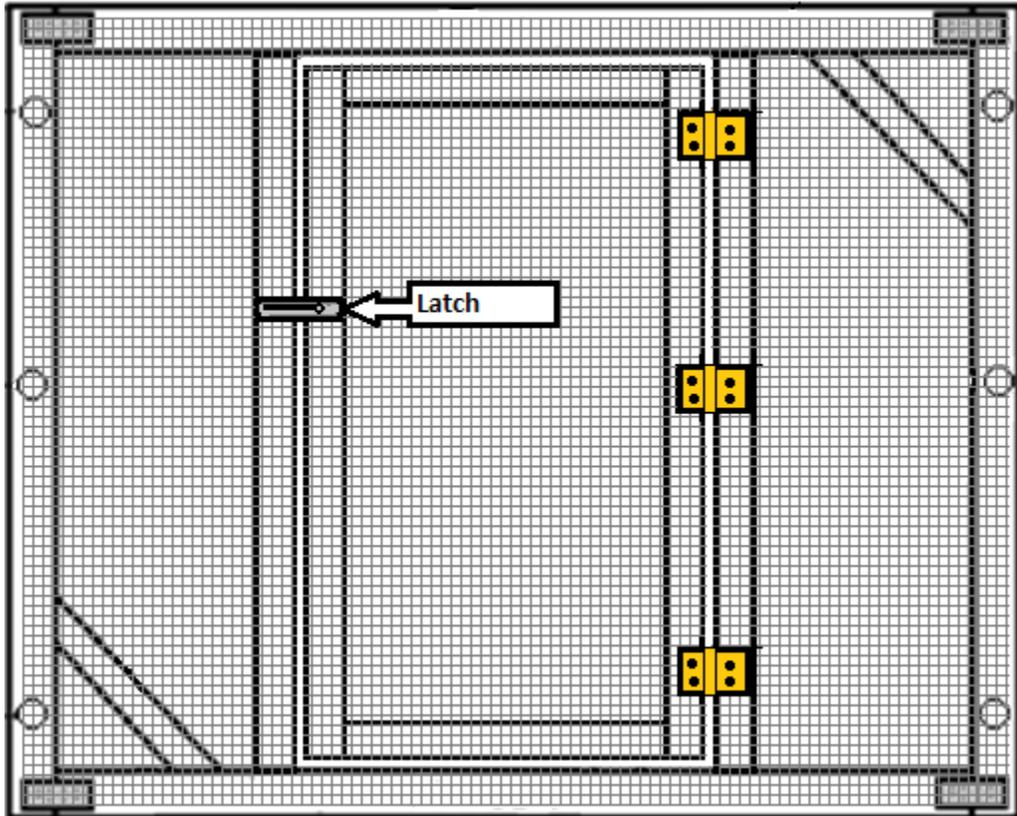

Figure 2-12
3. Once all four (4) sides are completed, remove hinges then cover them with  $\frac{1}{2}$ " x  $\frac{1}{2}$ " hardware cloth using  $\frac{9}{16}$ " truss washer lath screws. After hardware cloth has been attached, replace hinges using previously made holes to insure proper alignment and add door latch (Figure 2-12).